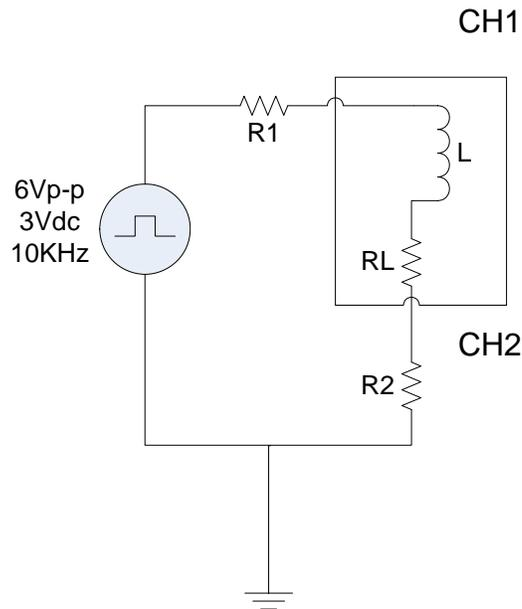

Fig.7.2 Transient RL circuit
1. Assemble the circuit in Figure 7.2 with the component values shown in Table 7-2. Measure the internal resistance of the inductor.
Table 7-2 Results of the transient RL circuit shown in Fig. 7.2